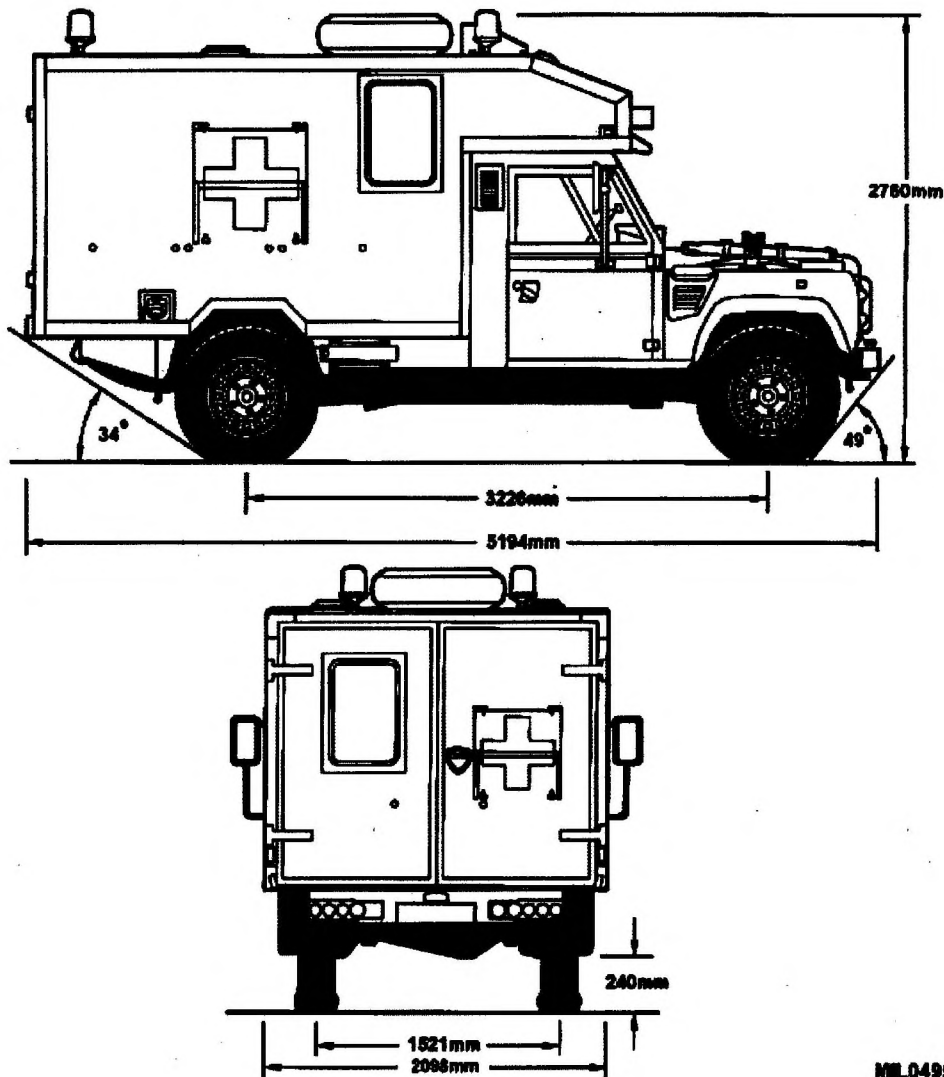

Fig 3 Ambulance dimensions
6.3 Table 4 and Fig 3 identify the dimensions for the Ambulance.